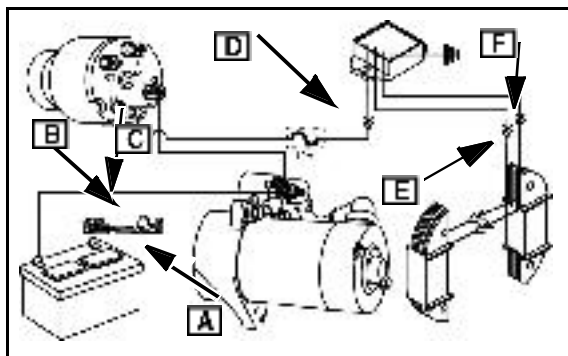

Fig. 22
5. Install battery ground cable to DC shunt battery terminal. See Fig. 22